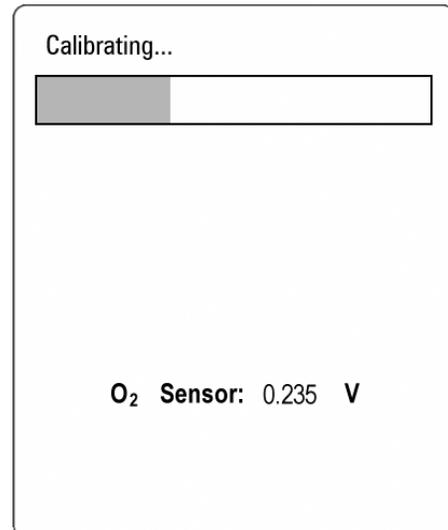
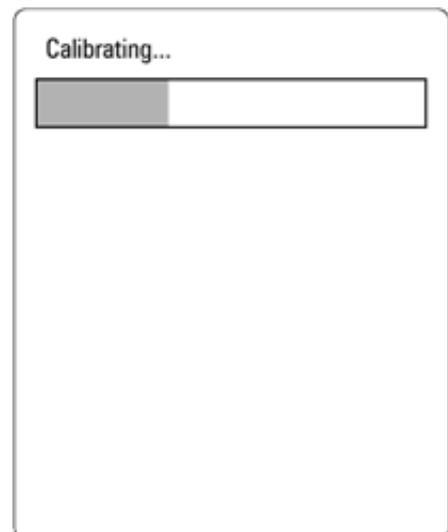

FIGURE 2-15 Oxygen Sensor Calibration Progress Bar
FIGURE 2-17 Oxygen Sensor Calibration Progress Bar (UI versions 2.24 and lower)
- e. After at least 3 minutes have passed, select the **Next** button to initiate the calibration process. The progress bar shown in FIGURE 2-15 or FIGURE 2-17 will be displayed.